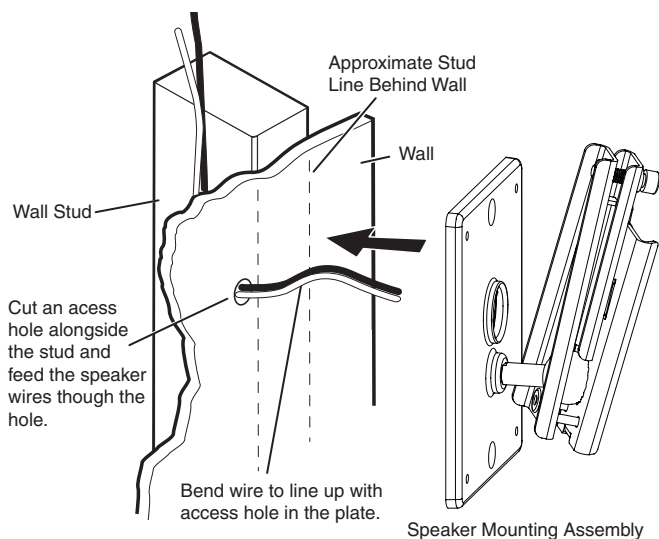

Figure 7 — Installing the wall mount assembly
4. Mark the wall where the wire will pass through the plate, and cut a small access hole large enough for the wire to pass through without interference. Where the stud is wider than the plate's access hole, cut the hole in the wall to the left or right and directly alongside the stud (see figure 7).
5. Using compatible speaker wire (Extron recommends using 12-18 AWG), route the wire from the audio source to the speaker location by the most convenient and safe route. If the wiring is to remain hidden behind the wall, follow the stud to where the small access hole has been cut, and feed about two feet of wire out through the hole into the room. If necessary, bend the wire behind the plate to align with the hole in the plate (see figure 7). If possible, secure the wire to the stud at various places. Allow enough freedom of movement at the hole for speaker connection.